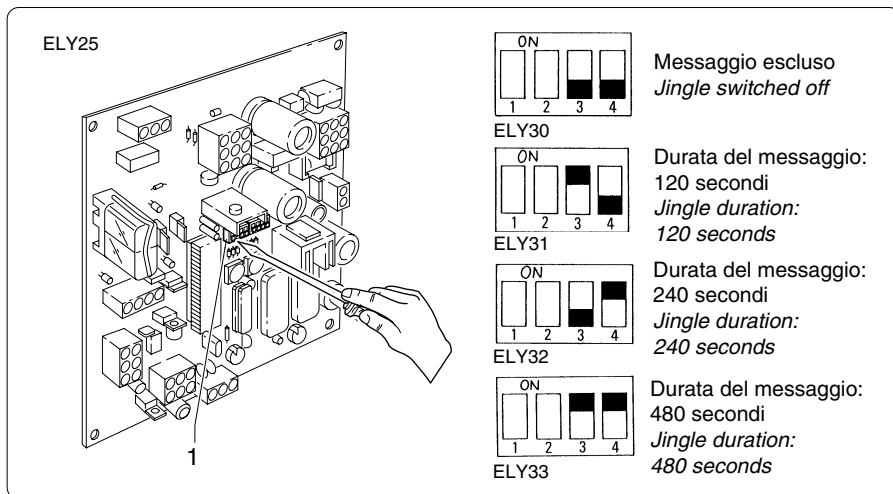

fig. 5.3.4
*Having the jingle switched on/off and the duration of the jingle are both options that can be adjusted using the dip-switch "1" (left-hand side) by positioning each dip-switch as indicated in figure 5.3.4.*